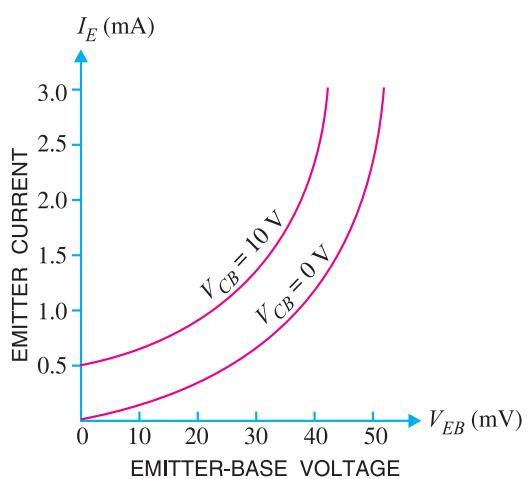

Fig. 8.14
**1. Input characteristic.** It is the curve between emitter current  $I_E$  and emitter-base voltage  $V_{EB}$  at constant collector-base voltage  $V_{CB}$ . The emitter current is generally taken along y-axis and emitter-base voltage along x-axis. Fig. 8.14 shows the input characteristics of a typical transistor in CB arrangement. The following points may be noted from these characteristics :